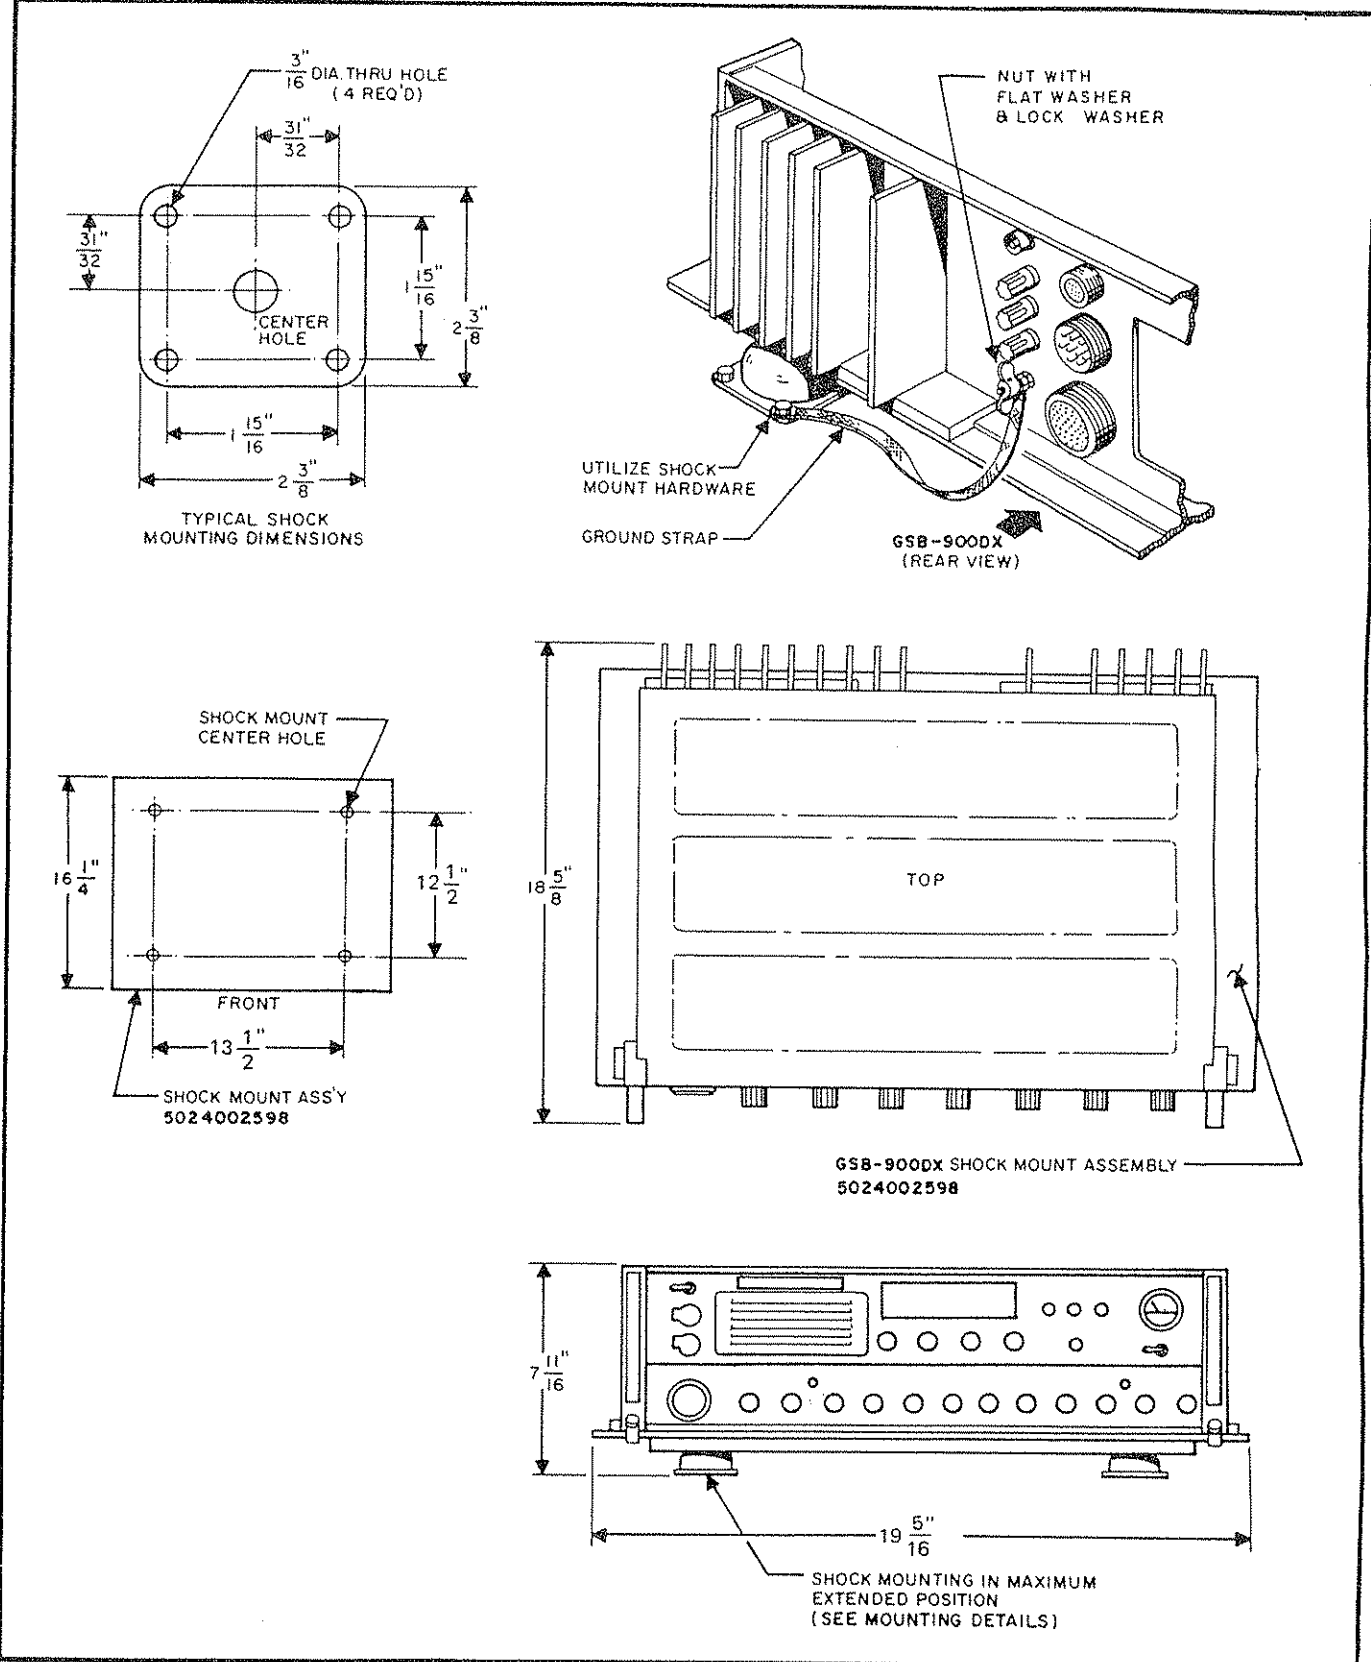
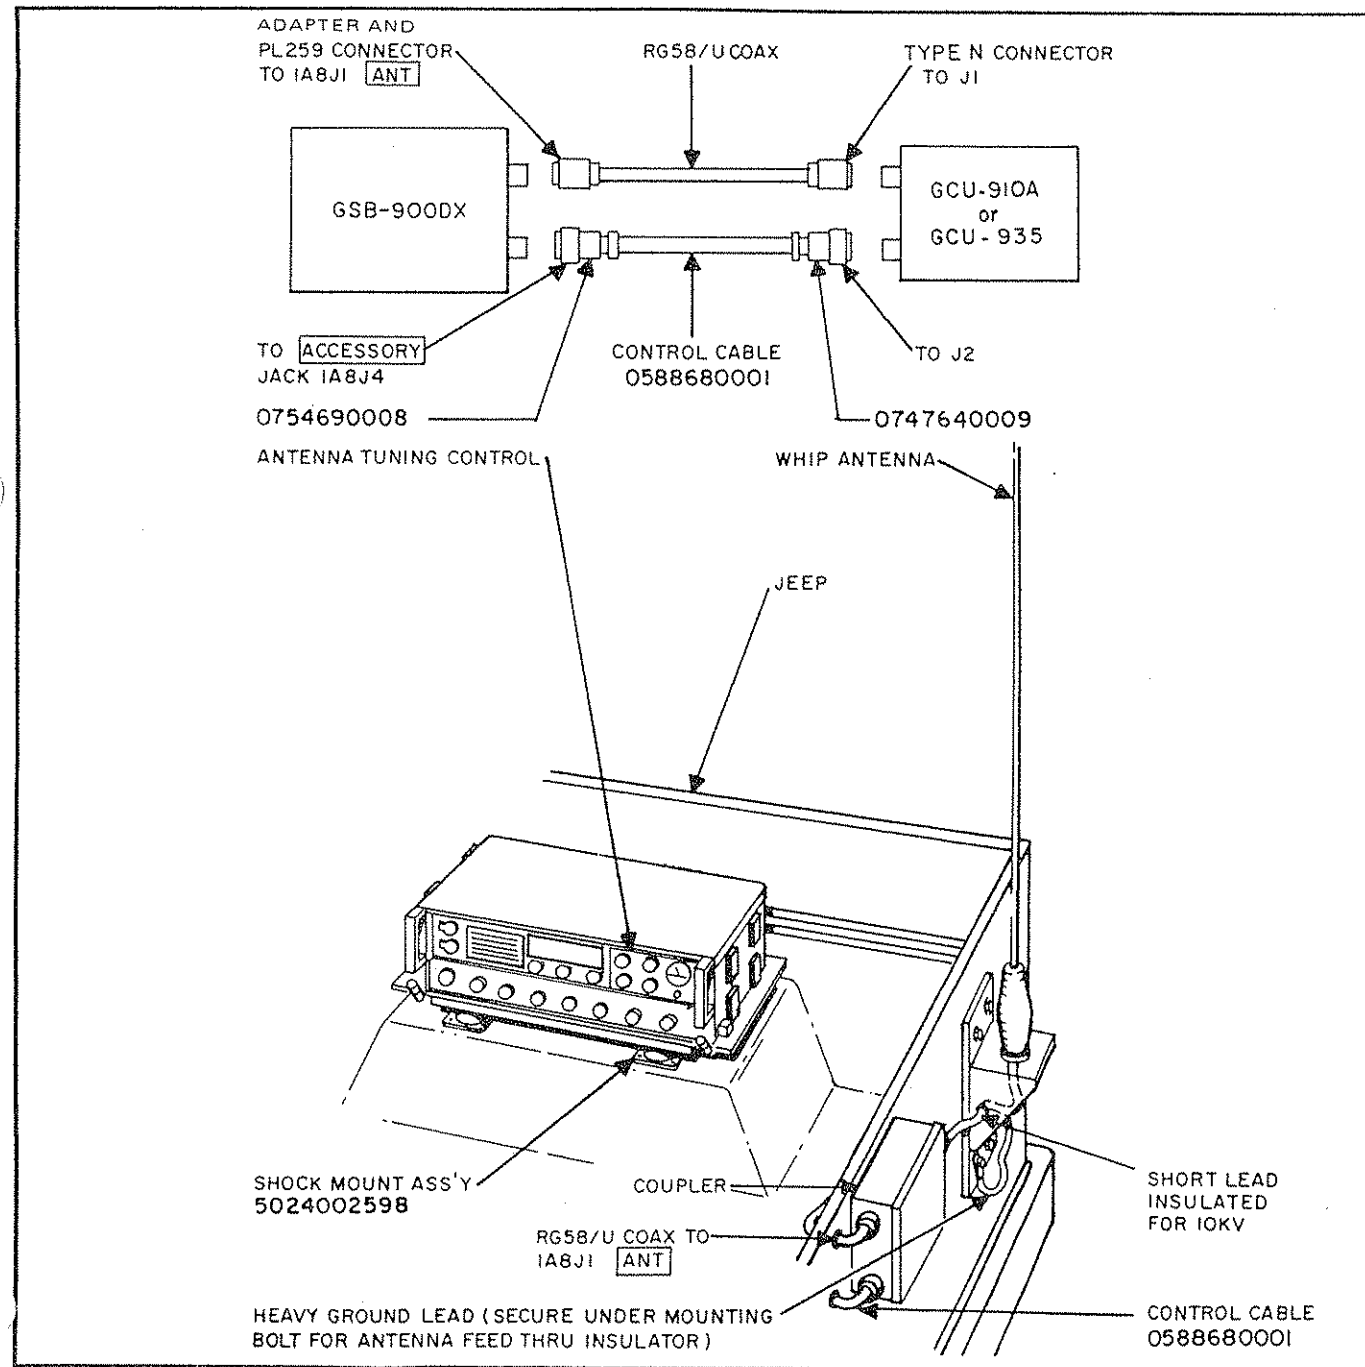

Figure 2.4 Shock Mount Assembly and Details
Figure 2.5 Typical Vehicular Installation
The GSB-900DX Shock Mount Assembly (Sunair Part No. 5024002598) is designed to mount the Transceiver in vehicular installations. Figure 2.4 gives the applicable outline dimensions for the GSB 900DX coupled with the shock mount. Figure 2.5 shows a typical vehicular installation. See section
2.5 for specific antenna recommendations. In order to minimize R.F. pickup, it is important that the ground strap supplied with the shock mount be securely fastened between the ground post on the radio and the bottom of the right rear shock isolator (see detail, figure 2.4). It is also important to ground the antenna coupler to the frame of the vehicle by the shortest possible path.